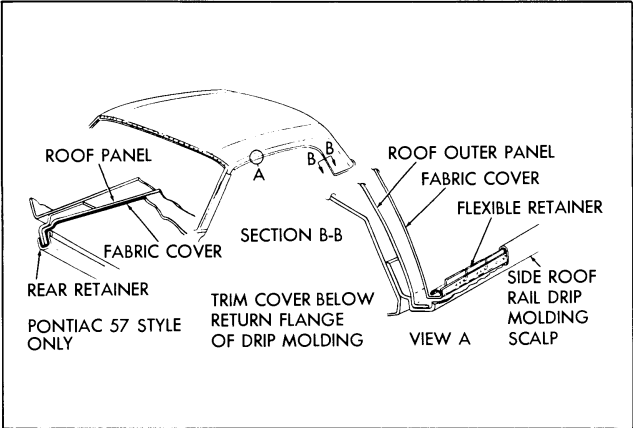
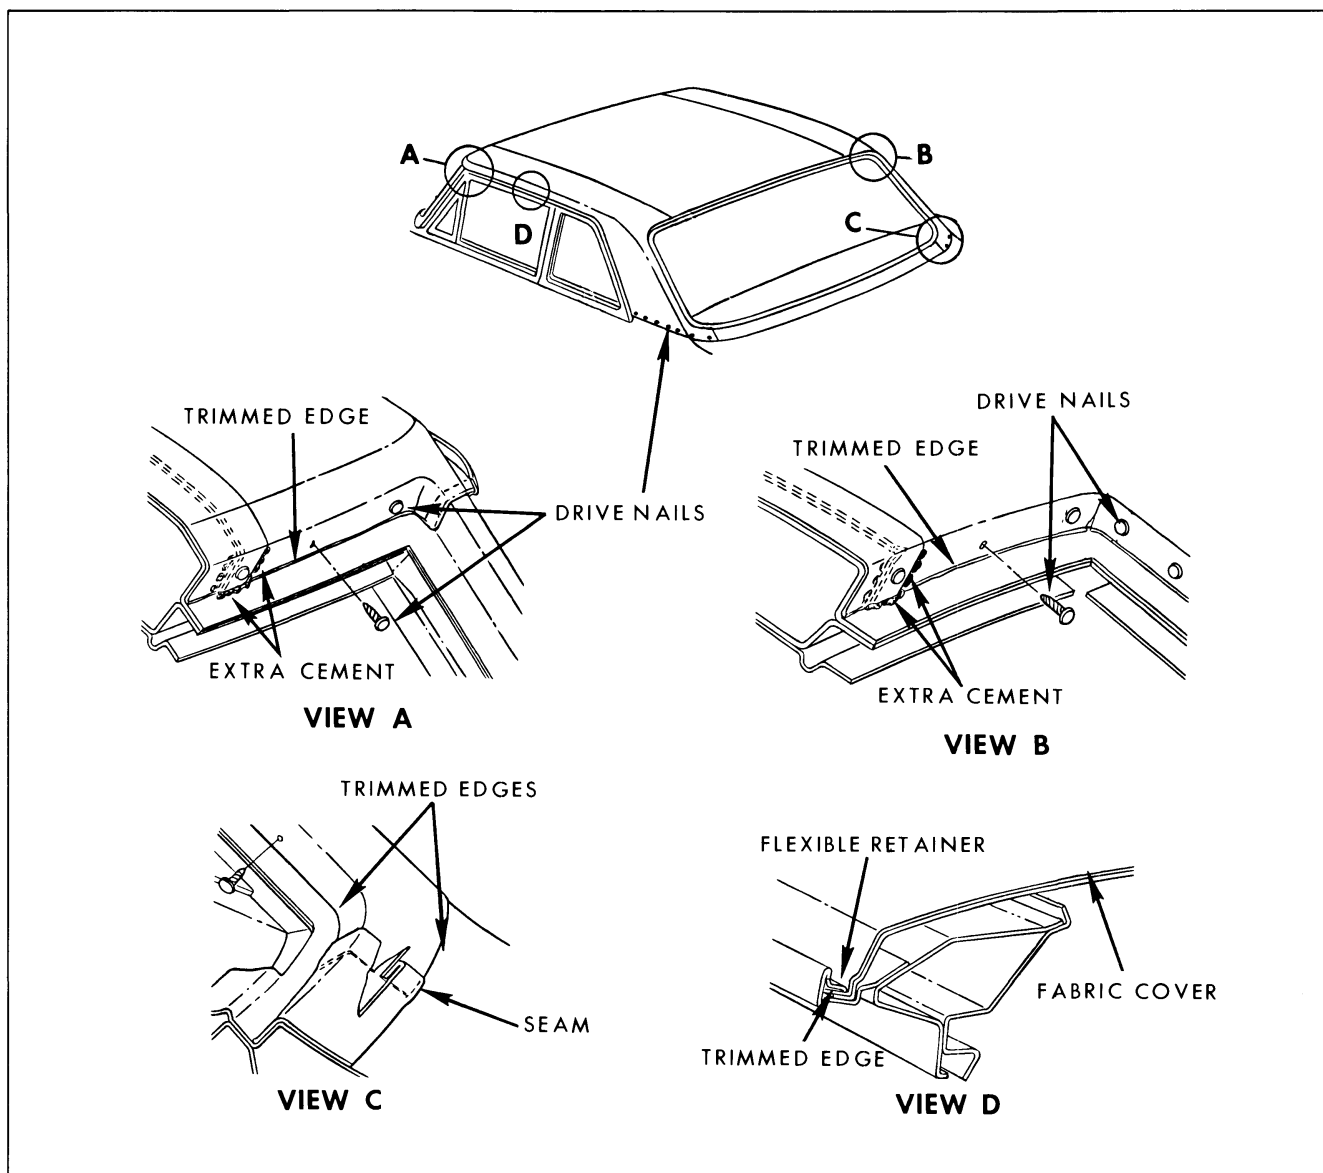
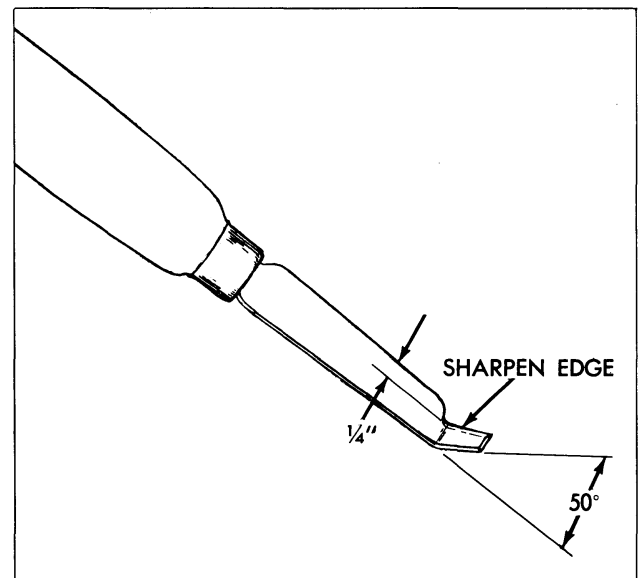

Fig. 23-1 Fabric Roof Cover - Pontiac
Fig. 23-2 Fabric Roof Cover - Tempest
Fig. 23-7 Fabric Trimming Knife
4. Remove flexible retainers securing fabric cover inside right and left drip moldings (view A, Fig. 23-1 or view D, Fig. 23-2). The retainers may be removed by inserting tip of screwdriver or similar tool under retainer at front of drip molding. While exerting slight outward force on drip molding with pliers, disengage fingers of retainer from drip molding flange. Do not damage drip molding. On 2957 style, remove fabric cover rear retainer at rear quarter window area (see section B-B, Fig. 23-1).
11. Using fabric cover trimming tool J-21092 or suitable small knife, trim fabric cover just under lip of roof drip molding (view A, Fig. 23-1). A tool may be fabricated to trim material along side roof rail moldings as illustrated in Fig. 23-7.
13. Install flexible retainer starting at radius area above rear door or quarter window. Working toward rear of body, carefully insert retainer into drip molding so that fingers are under drip molding flange (view A, Fig. 23-1). Use fibre or wood block with slight concave end to push retainer downward. **DO NOT DAMAGE RETAINER.**
14. On 2957 style, compress rear retainer to insure a tight fit and install on rear drip molding (section B-B, Fig. 23-1).